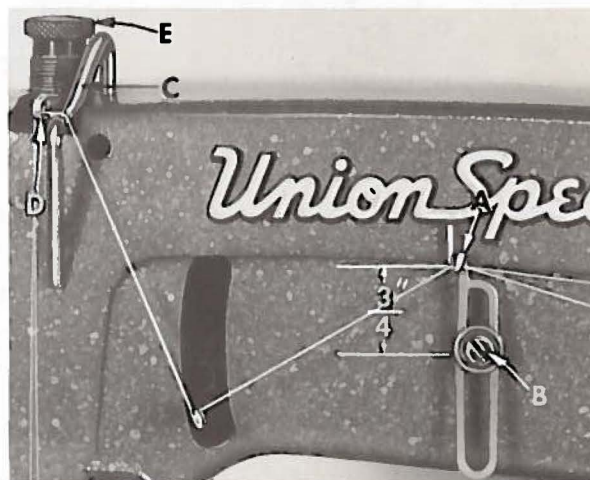

Fig. 13
Set the needle thread frame eyelet hole (A, Fig. 13) 3/4 inch above the center of mounting screw (B). Lower for more needle thread in the stitch, raise for less. Top of take-up wire (C) to be even with top of holes in the needle thread eyelet (D) when needle bar is at the bottom of its stroke. Lower this setting for less needle loop, reverse for more loop.
Regulate the presser spring regulating screw (E, Fig. 13) so that it exerts only enough pressure on the presser foot to feed the work uniformly when a slight tension is placed on the fabric. Turning it clockwise increases the pressure, counterclockwise acts the reverse.